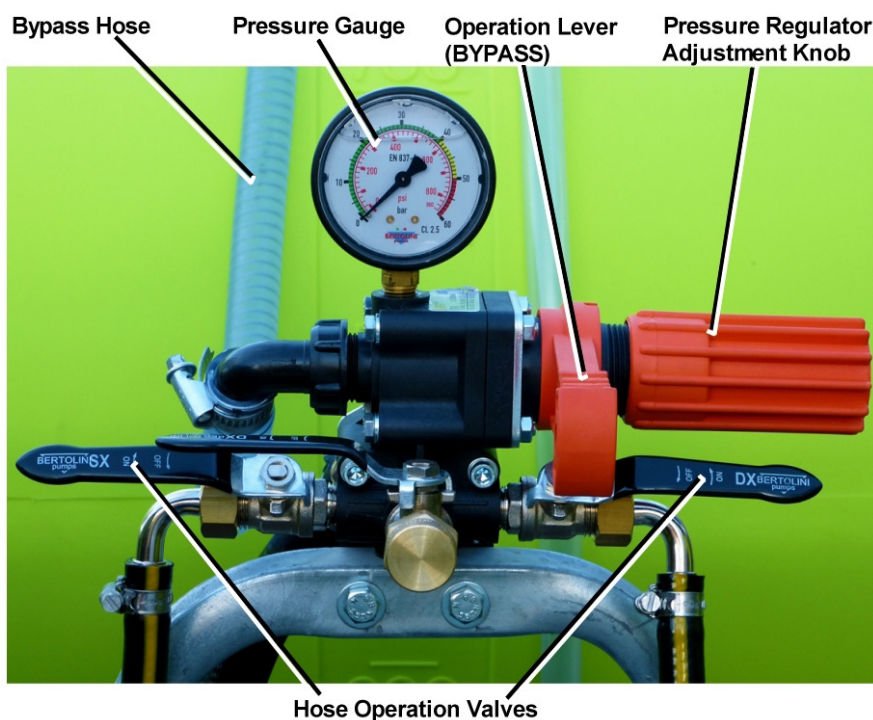

Figure 3 – Pressure Regulator (Twin SuperReel version shown)
3. At the pump, check that the pressure regulator is set to the minimum position by turning the knob anti-clockwise, refer to Figure 3.